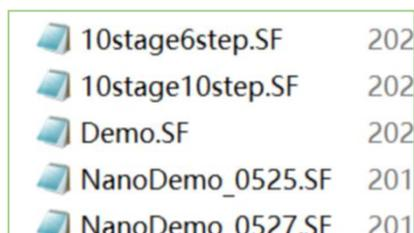

Figure 4-11 Add New Reagent Program
- ▶ Click **Add** to enter the new reagent program adding window, select the new reagent programme as shown in figure 4-11.